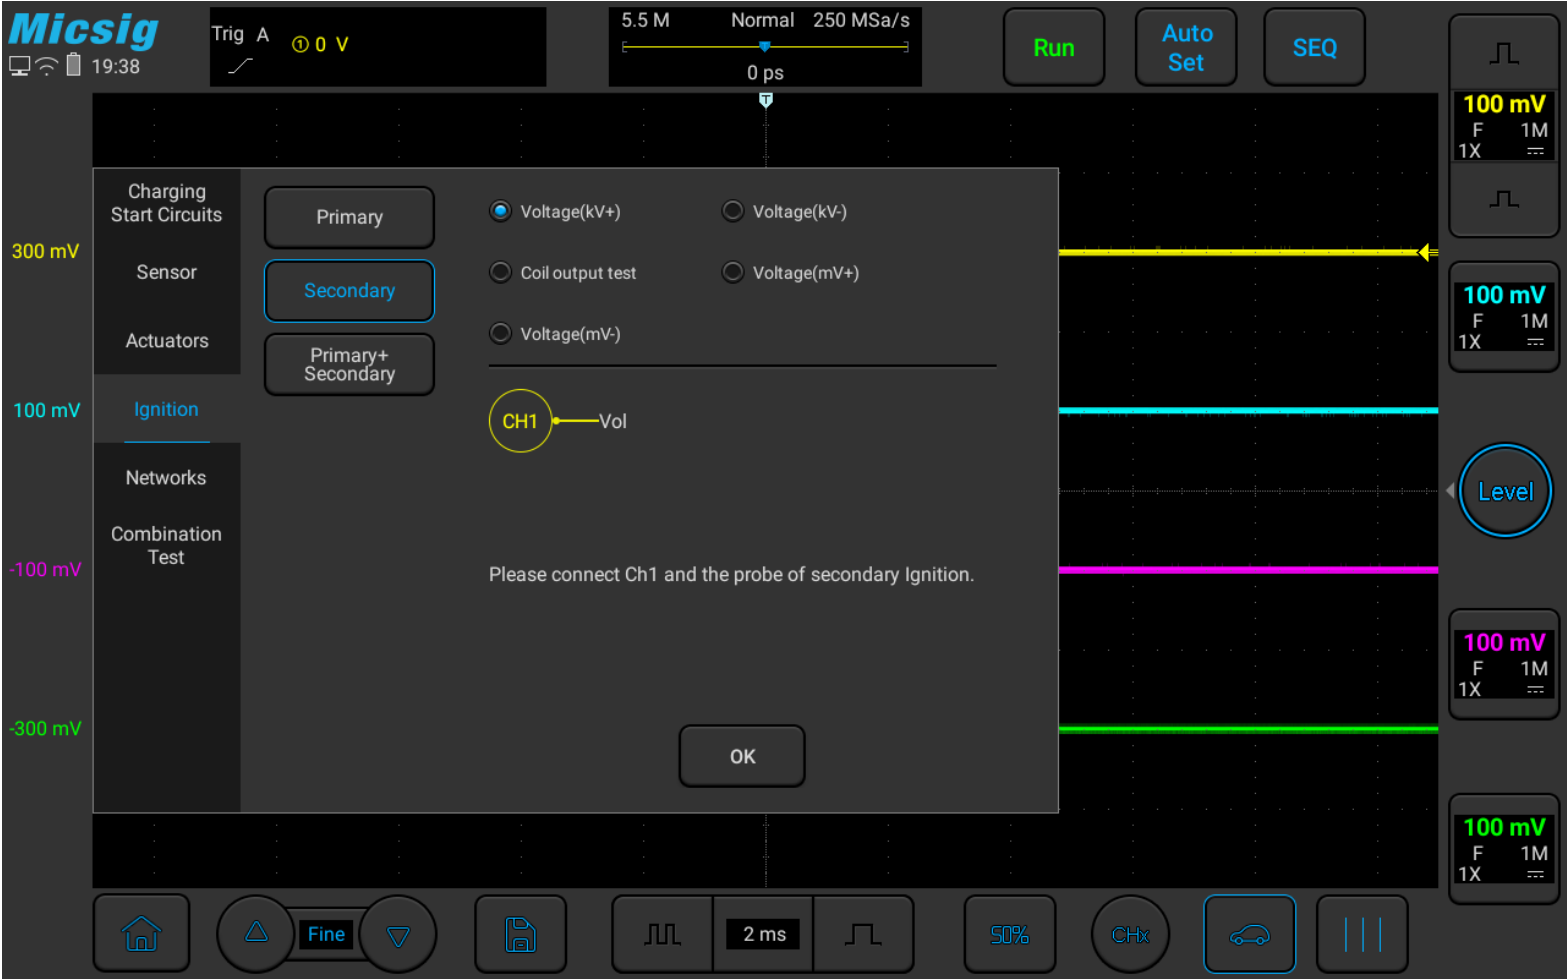

Figure 3-42 Secondary ignition test
Use the ATO oscilloscope to test the secondary ignition coil (⚠ must use the secondary ignition probe) [the voltage (KV), coil output voltage, and voltage (mv) can be tested separately to help users troubleshoot possible faults]. The specific operations are as follows Figure 3-42: